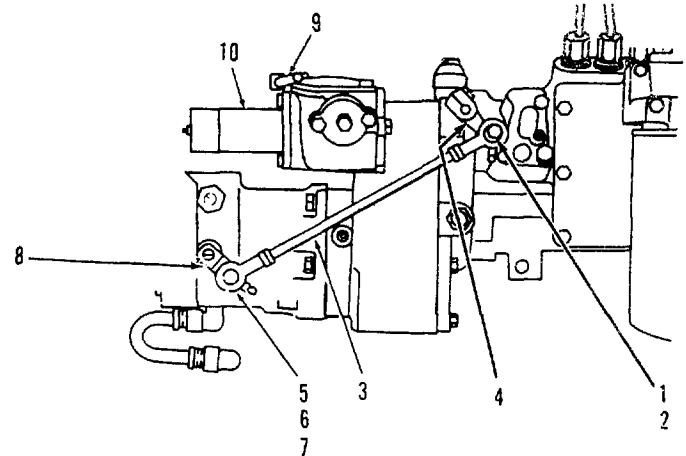

Figure 4-62. Governor Throttle Linkage, Adjustment and Replacement
a. Adjustment. Adjust throttle linkage as follows (see figure 4-62):
(1) Remove bolt (1) and locknut (2) to disconnect rod (3) from fuel injection pump lever (4).
(2) Turn fuel injection pump lever (4) and governor control lever (8) fully counterclockwise.
(3) Adjust length of rod (3) to put bolt holes in rod (3) and lever (4) in alignment.
(4) Attach rod (3) to fuel injection pump lever (4) using bolt (1) and locknut (2).
b. Replacement. Replace throttle linkage as follows (see figure 4-62).
(2) Remove bolt (5), washer (6), and locknut (7) to disconnect rod (3) from governor control lever (8). Remove rod (3).